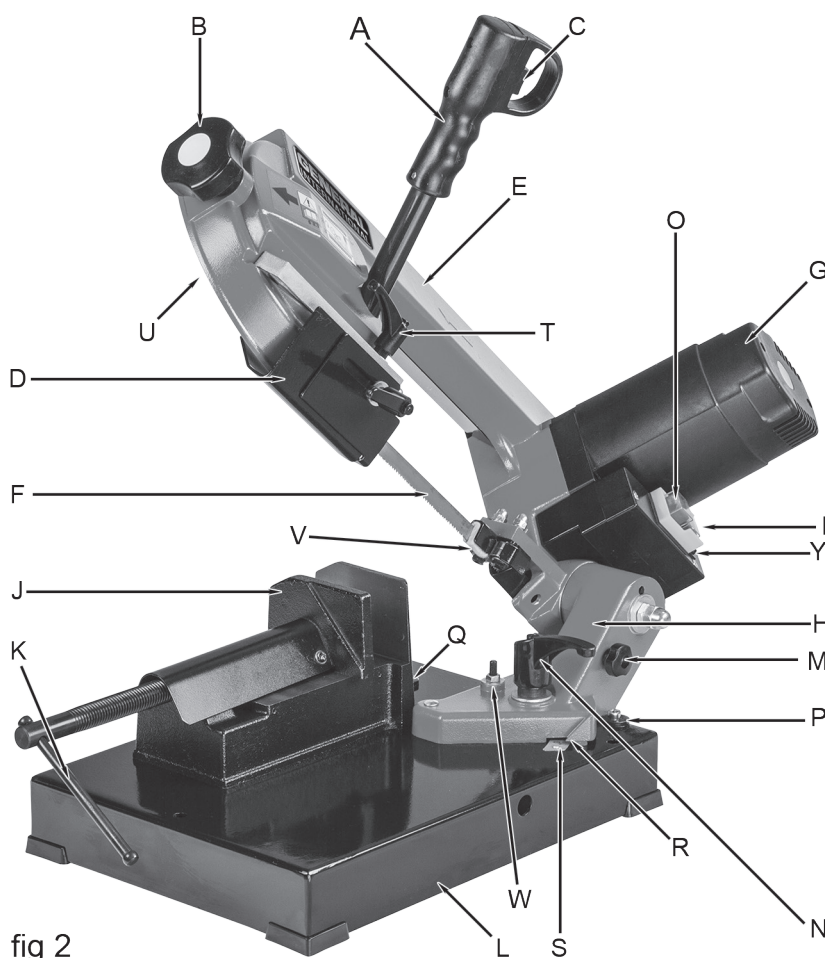

fig 2
- the machine body (E, fig 2 & 3); the head frame complete with motor and drive system (G, fig 2 & 3). joined, by means of a swivel support (H, fig 2 & 3), to
- the bottom section, made up of a base (L, fig 2 & 3) and vise (J, fig 2 & 3).
- Immobilise the head frame by means of the arm locking pin (M, fig 2 & 3).
Turn the blade tensioning handwheel (B, fig 2 & 3) clockwise up to the travel stop.
The machine comes with basic calibration set at 0° and 45°, by mechanical stoppers: the 0° miter limiter and 45° miter limiter (P & Q, fig 2 & 3).
- Loosen the swivel support lock knob (N, fig 2 & 3).
- Turn the swivel support (H, fig 2 & 3) using the control handgrip (A, fig 2 & 3).
- Stop rotation when the miter angle indicator (R, fig 2 & 3) is aligned with the selected position on the graduated miter angle scale on the base (S, fig 2 & 3).
- d. Lock the swivel support in its new position by tightening the knob (N, fig 2 & 3).
- a. Release the swivel support by slackening the swivel support lock knob (N, fig 2 & 3).
- b. Turn the swivel support (H, fig 2 & 3) using the control handgrip (A, fig 2 & 3).
- a. Loosen the sliding guide lock knob (T, fig 2 & 3).
- b. Slide the sliding blade guide (D, fig 2 & 3) until it is as close to the workpiece as possible.
- d. Lock the blade guide in position by tightening the sliding guide lock knob (T, fig 2 & 3).
- Select the speed, whether 197 fpm or 262 fpm (60 or 80 m/min), using the speed selection switch (Y, fig 2 & 3).
- b. Locate the vise screw handle (K, fig 2 & 3).
- c. Rotate the vise handle counter-clockwise until there is enough room for your work piece between the vise plates (J, fig 2 & 3).